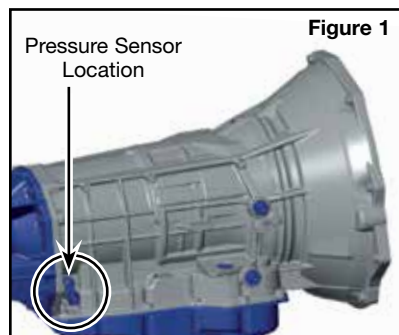

Figure 1
- Transmission pressure sensor is located on the passenger side, rear of the transmission (**Figure 1**). Some applications will have a heat shield attached to the transmission in this area that will need to be removed.